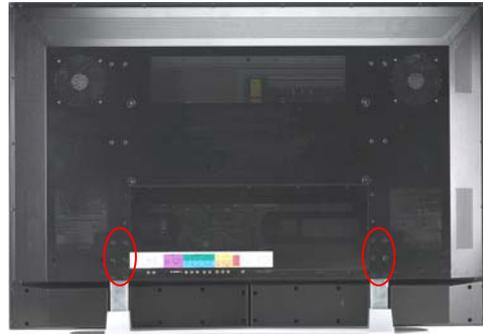

Figure 3.4a
3. Remove the 6 screws on each side of the back panel of the plasma monitor located near the bottom so that the base stand can be removed (see Figure 3.4a).